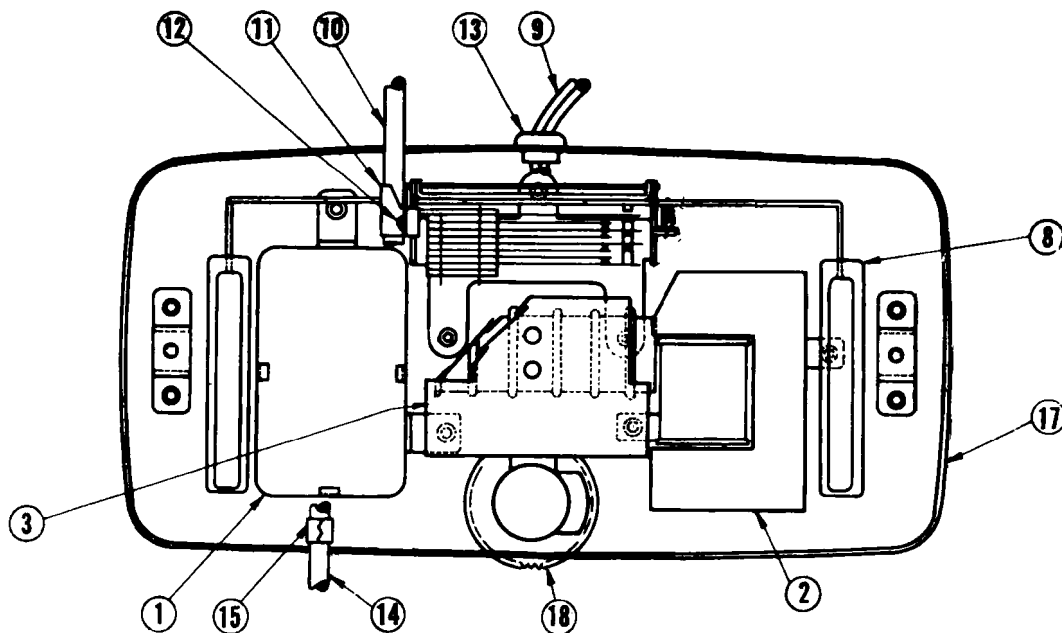

Figure 15. Baseplate assembly with associated components.
Insert the new line cord; align the cord with the line-cord groove in the telephone baseplate, and fasten the line cord under the line cord clamp (item 11, figure 15). Reconnect the line cord wires to the transmission unit (figure 19) as follows: